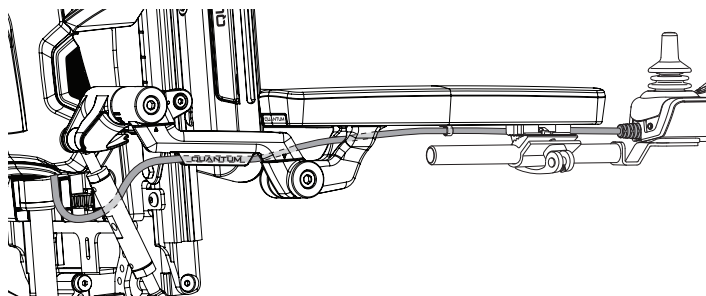

Figure 7. Controller Harness Routing on a TRU-Balance® 4
4. Install the controller and route the harness to the back of the power base. **See figure 7, 8, 9, or 10.**
6. Secure the controller harness to the armrest receiver with wire ties. **See figure 7, 8, 9, or 10.**